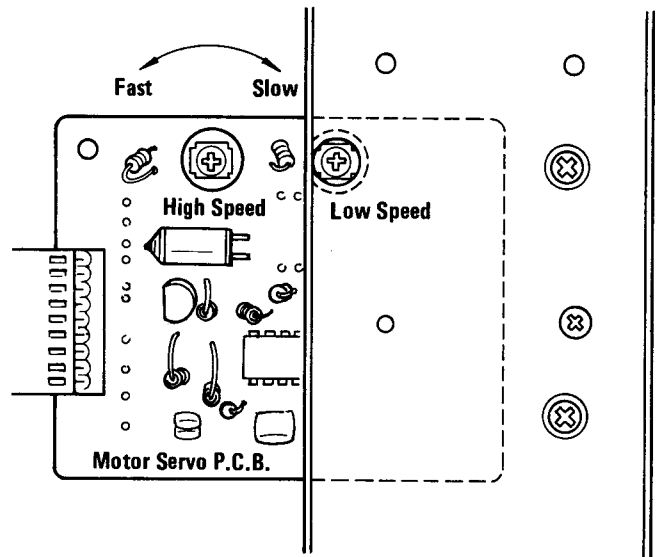

Fig. 2-10
3. Play the middle of the test tape and adjust the HIGH speed trimmer resistor until the frequency counter indicates a reading of 3000 Hz. See Fig. 2-10. (CAUTION: Use an insulated screwdriver to prevent shorting.)